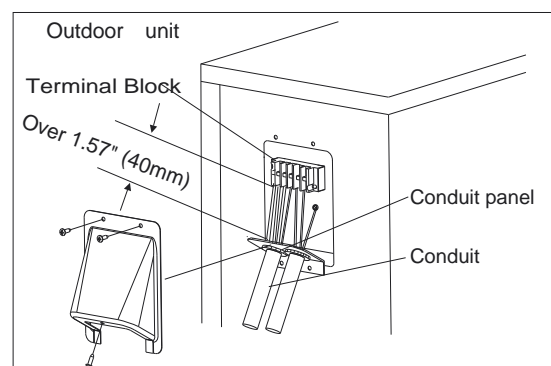

Fig. 13 — Field Wiring
5. Connect conduit to conduit panel (see Fig.13).